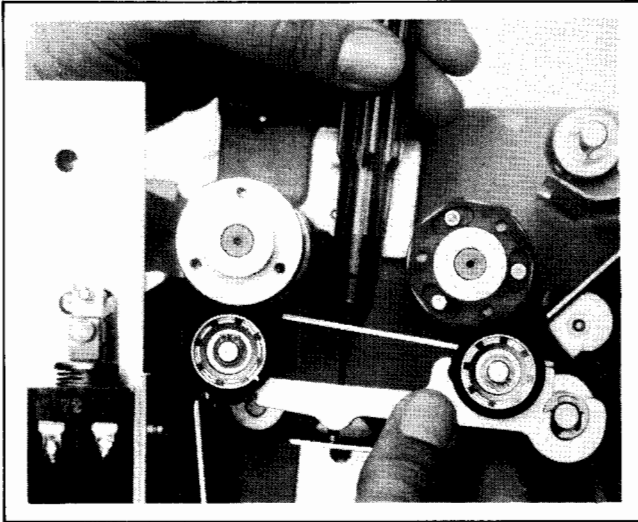

Figure 5-10. Lower Truck Spring Adjustment
b. Turn set screw (A) (Figure 5-10) out if truck assembly does not move up and down freely.
c. Tighten set screw (A) until truck is no longer free but has not yet depressed spring.
d. Turn set screw (A) four complete turns clockwise for desired spring tension ($\pm 1/8$ turn). See Figure 5-10.